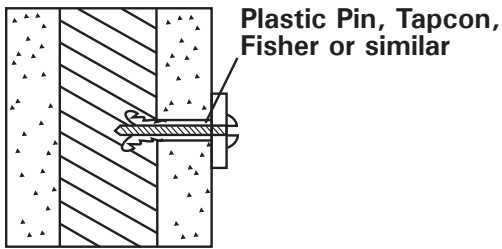

Figure 26.
C. **Extra heavy objects:** During construction, metal pins may be inserted in mortar pallets. Also, threaded pins can be fastened with epoxy resin (see Figure 26 below).